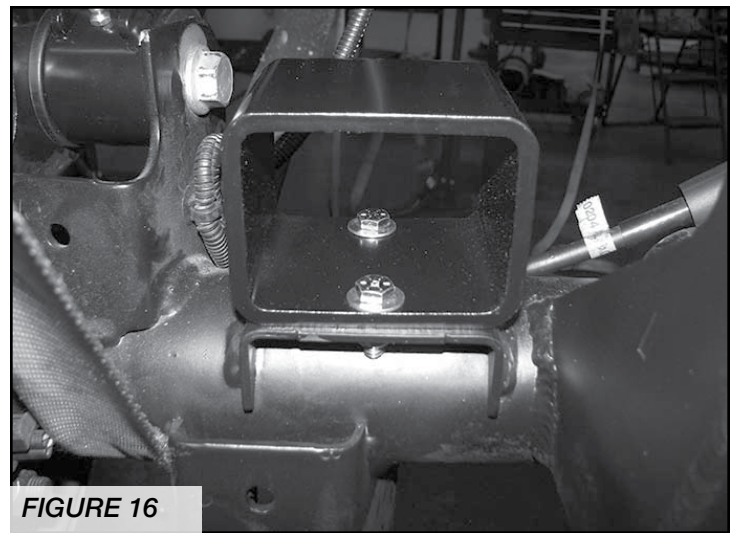

FIGURE 16
22. Locate FT50401BK Rear Bump stop Spacer. Position the spacer onto the factory bump stop pad on the axle and attach with the supplied 5/16" x 1" bolts and hardware (mount the spacer to the axle with the offset of the spacer to the front of the Jeep). SEE FIGURE 16